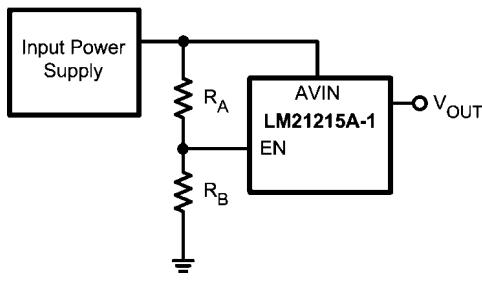

FIGURE 6. Enable Startup Through V_{IN}
The LM21215A-1 has a built-in under-voltage lockout protection circuit that keeps the device from switching until the input voltage reaches 2.7V (typical). The UVLO threshold has 200 mV of hysteresis that keeps the device from responding to power-on glitches during start up. If desired the turn-on point of the supply can be changed by using the precision enable pin and a resistor divider network connected to VIN as shown in *Figure 6* in the design guide.
The enable (EN) pin of the LM21215A-1 allows the output to be toggled on and off. This pin is a precision analog input. When the voltage exceeds 1.35V, the controller will try to regulate the output voltage as long as the input voltage has exceeded the UVLO voltage of 2.70V. There is an internal current source connected to EN so if enable is not used, the device will turn on automatically. If EN is not toggled directly the device can be preprogrammed to turn on at a certain input voltage higher than the UVLO voltage. This can be done with an external resistor divider from AVIN to EN and EN to AGND as shown below in *Figure 6*.